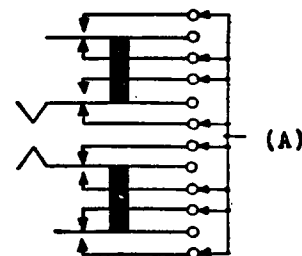

Fig. 10
- (b) **Fig. 10(A) — Cross Sequence — Break-Make Spring Combinations on Ringing Spring Assemblies or When Specified on Circuit Drawing:** All normally closed contacts